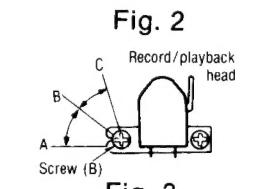
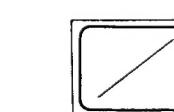

Fig. 3
Fig. 6
- Playback the 8kHz signal from the test tape (QZZCFM). Adjust screw (B) in fig. 3 for maximum output L-CH and R-CH levels. When the output levels of L-CH and R-CH are not at maximum at the same point adjust as follows.
- Turn screw (B) shown in fig. 3 to find angles A and C (points where peak output levels for left and right channels are obtained). Then, locate angle B between angles A and C, i.e., point where L-CH and R-CH outputs are balanced. (Refer to figs. 3 and 4.)
- Playback the 8kHz signal from the test tape (QZZCFM). Adjust screw (B) shown in fig. 3 so that pointers of the two EVMs swing to maximum and a lissajous waveform as illustrated in fig. 6 is obtained on the oscilloscope.